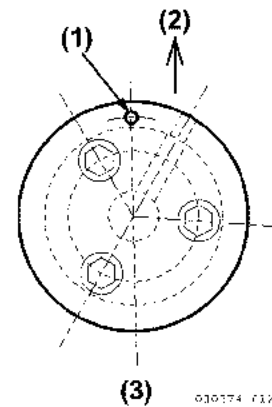

**Figure 5-142**
17. Measure the camshaft side gap (Figure 5-142, (3)). Ensure the camshaft rotates smoothly.